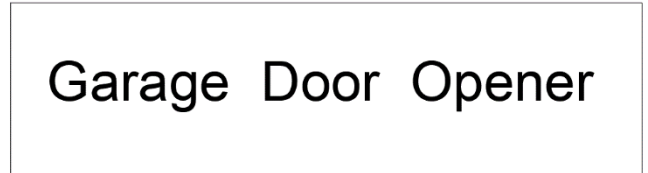
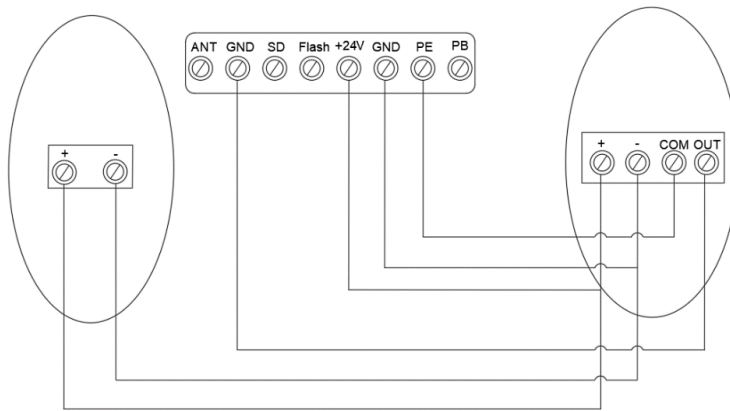

Figure 15
Figure 16
NOTE: Make sure the photo cell has been correctly installed and use Normally Closed contacts to the accessory terminals of the opener (Fig.15, Fig.16)
The O/S/C facility can be used for an external push button switch to operate the opener. The switch must have voltage free normally open NC contacts (Fig. 15)
Photo beam connection (optional) – Fig.15, Fig.16
Switch control connection (optional) – Fig.15
1. The O/S/C interfaces available. (Fig.15)